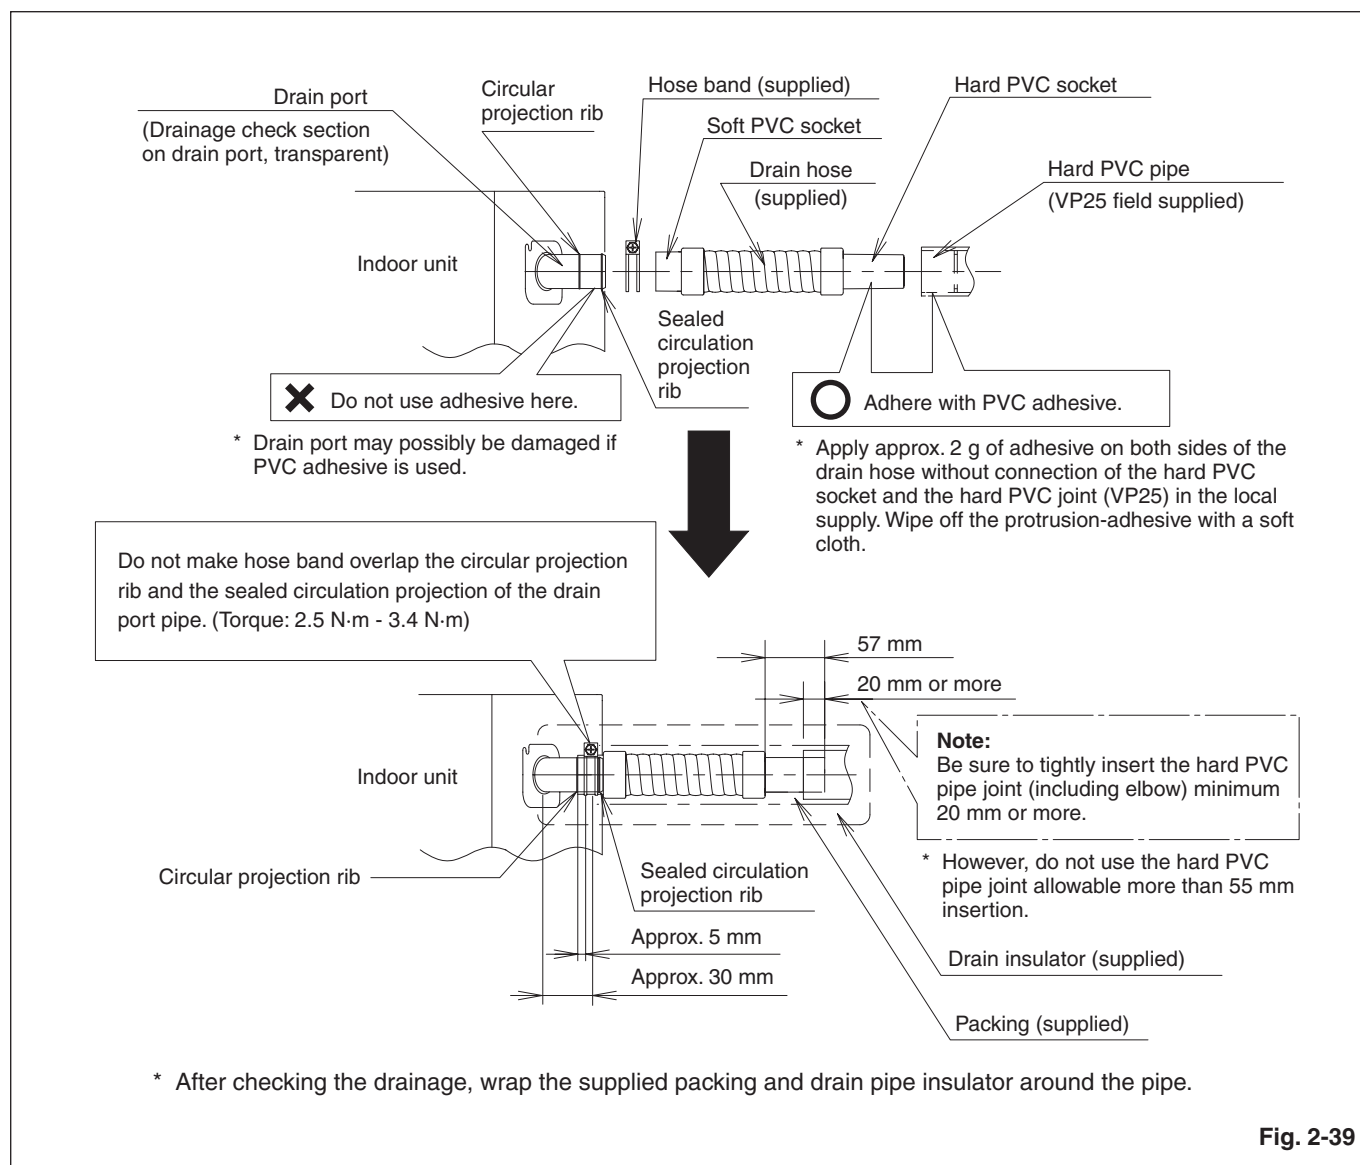

Fig. 2-39
(1) How to Install the Drain Pipe
- Move the hose band so that the center position of the hose band can be placed approx. 30 mm away from the external plate of the indoor unit. (Fig. 2-39)